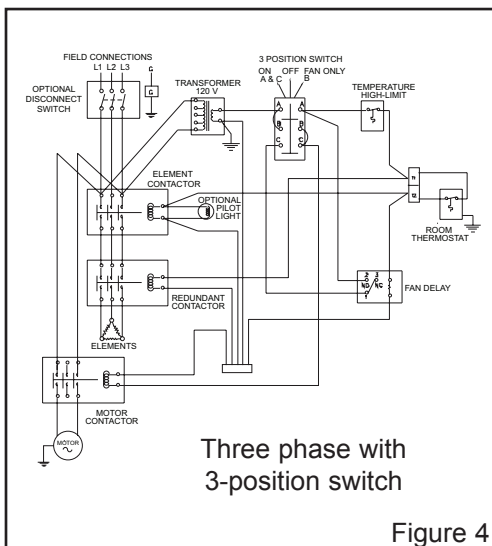

Figure 4
1. To operate heater, make sure power supply is properly connected as specified in the wiring schematic (see figure 4 to 8 on page 4).